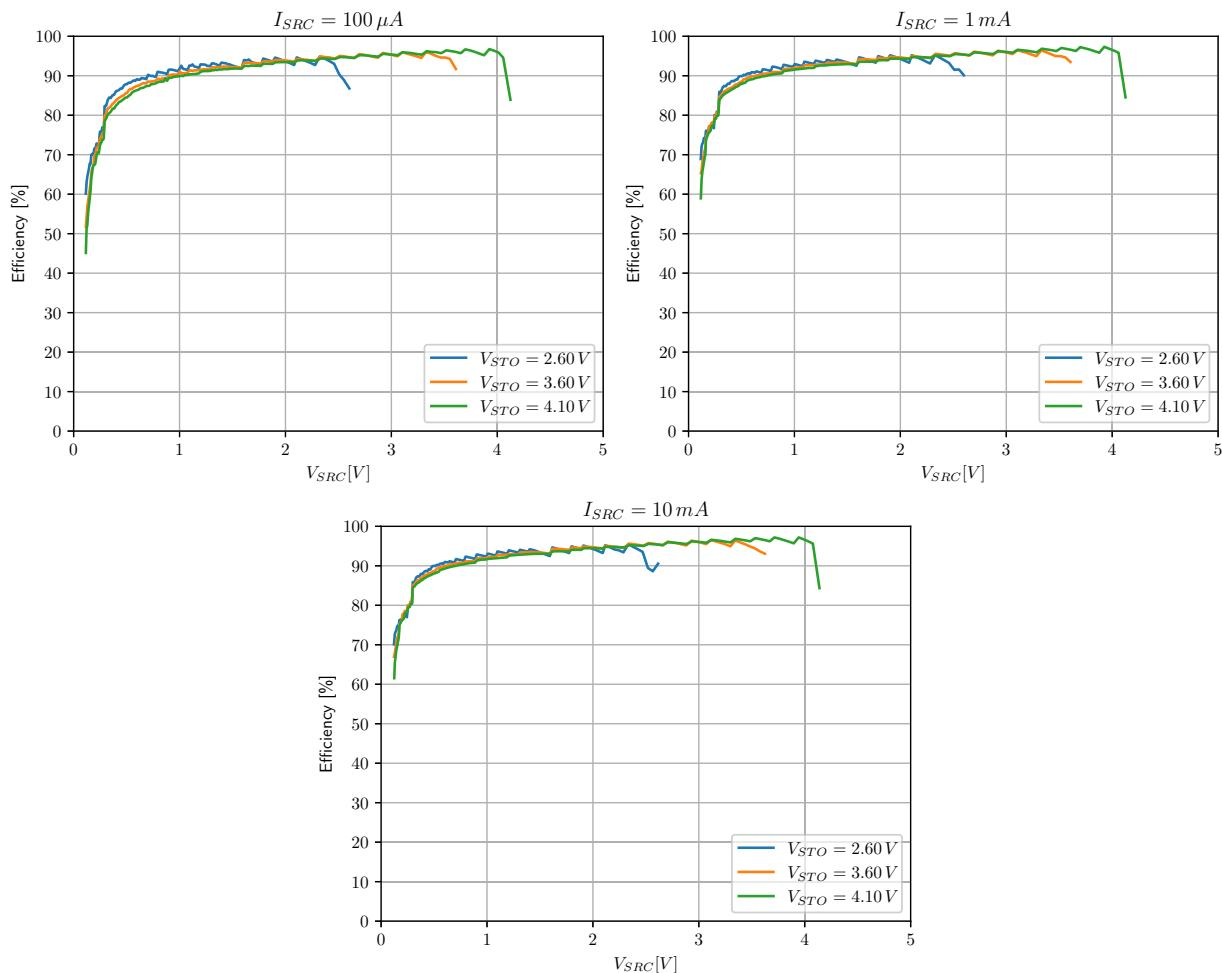

Figure 7: Boost converter efficiency with $L_{BOOSTx} = 33 \mu$ H (Coilcraft LPS4018-333MRB), $BSTxCFG.TMULT = 0x02$ (x3)
- Optional: a device able to act as an I²C master and send I²C commands to the AEM13921. Only useful when testing settings that are not accessible through the configuration pins, such as boost timings. Please note that, the results shown on Figure 7 are with x3 boost timing, which is the default value when not configuring the AEM13921 through the I²C registers, but must be configured if the I²C is used.